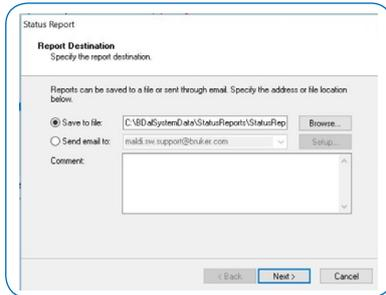

Figure 6.3 Status Report Wizard, selecting a folder
- This will open the “Status Report” wizard (see Figure 6.3)